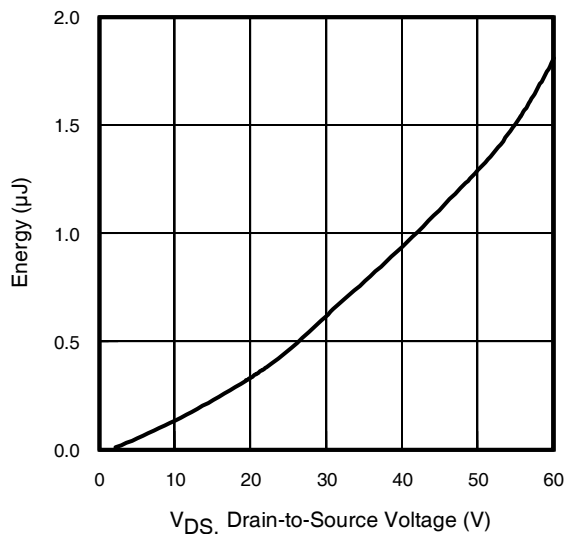

Fig 11. Typical  $C_{OSS}$  Stored Energy
| $C_{oss \text{ eff. (ER)}}$ | Effective Output Capacitance (Energy Related) | —    | 1040 | —    |       | $V_{GS} = 0V, V_{DS} = 0V \text{ to } 48V$ ⑦, See Fig.11 |